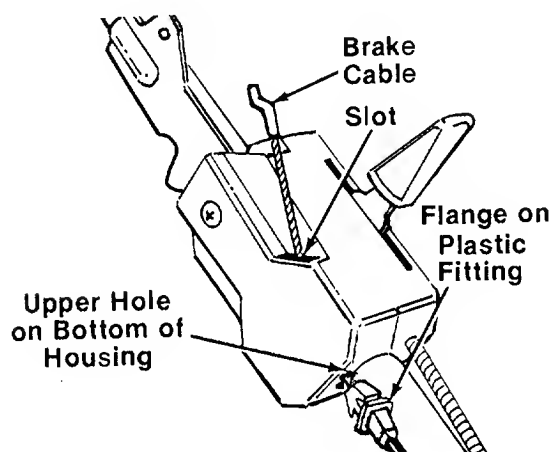

FIGURE 5.
6. The brake cable is attached to the engine. Route the brake cable under the lower handle. Place the end of the brake cable into the upper hole on the bottom of the control housing, and through the slot in the side of the housing as shown in figure 5. The angle of the flange on the plastic fitting must be positioned downward as shown. Be careful not to bend or kink the cable.